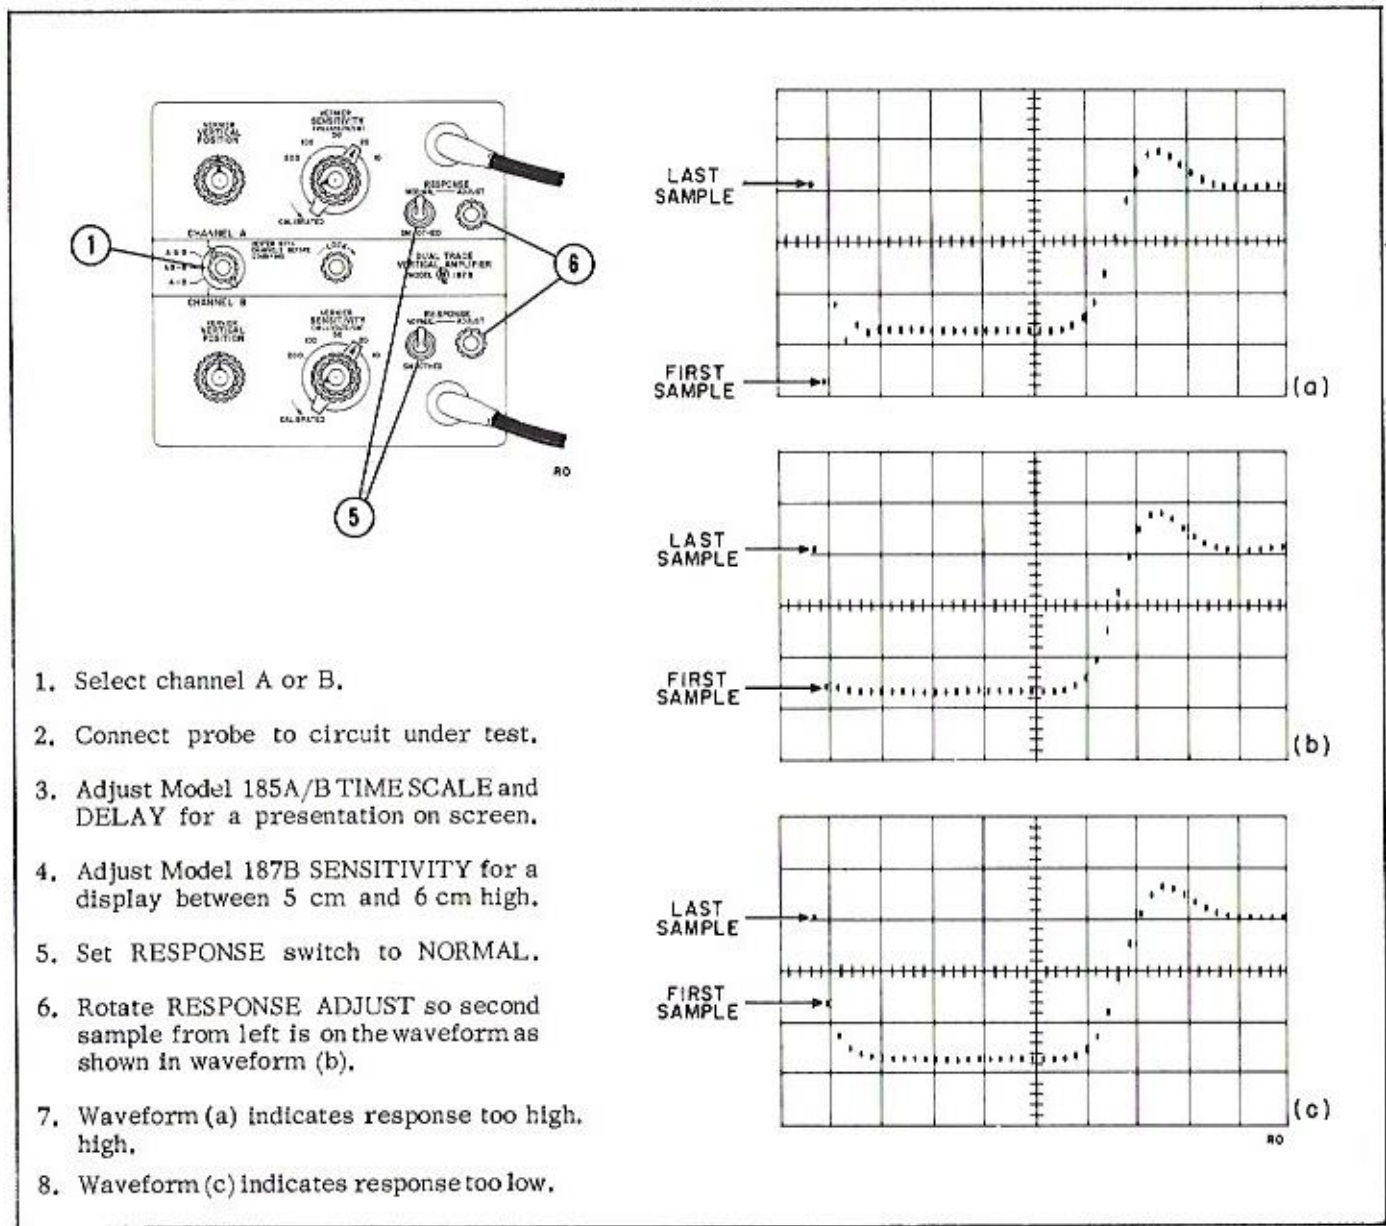

Figure 1-2. Optimizing the Response Adjustment
1-24. Response of the Model 187B is a measure of its sampling efficiency, its ability to follow any voltage change from sample to sample. Response is optimum when, within the rise time limits of the instrument, the vertical position of each sample on the crt corresponds exactly to the amplitude of the input signal at the time of the sample. If response is low, more than one sample is required to respond to a change. If response is high, there is sample-to-sample overshoot and ringing. See figure 1-2.
1-27. NORMAL RESPONSE. Adjustment for optimum operating conditions are illustrated in figure 1-2. Any waveform that produces a level difference between the beginning and end of the display may be used for this adjustment.
1-29. SMOOTHED RESPONSE. Obtain SMOOTHED RESPONSE by setting the response in the normal condition, as described in figure 1-2, and then moving the RESPONSE switch to SMOOTHED.
9. Set RESPONSE ADJUST to make second sample from left part of waveform (see figure 1-2). If range is limited, see step 12.